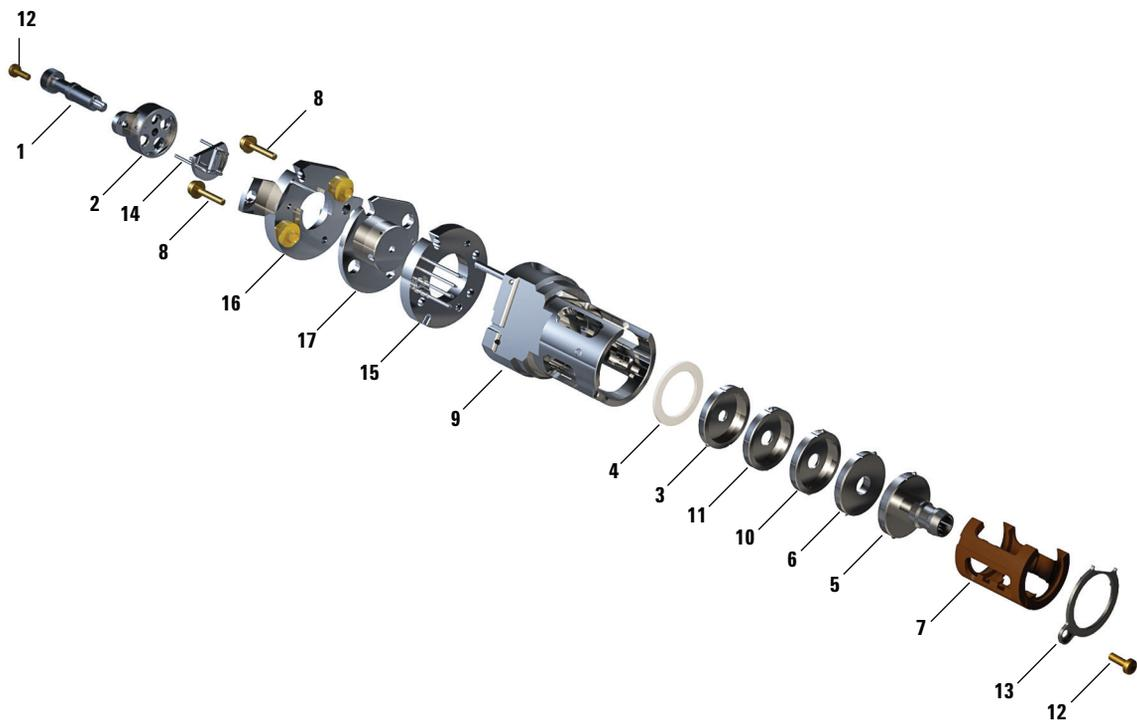
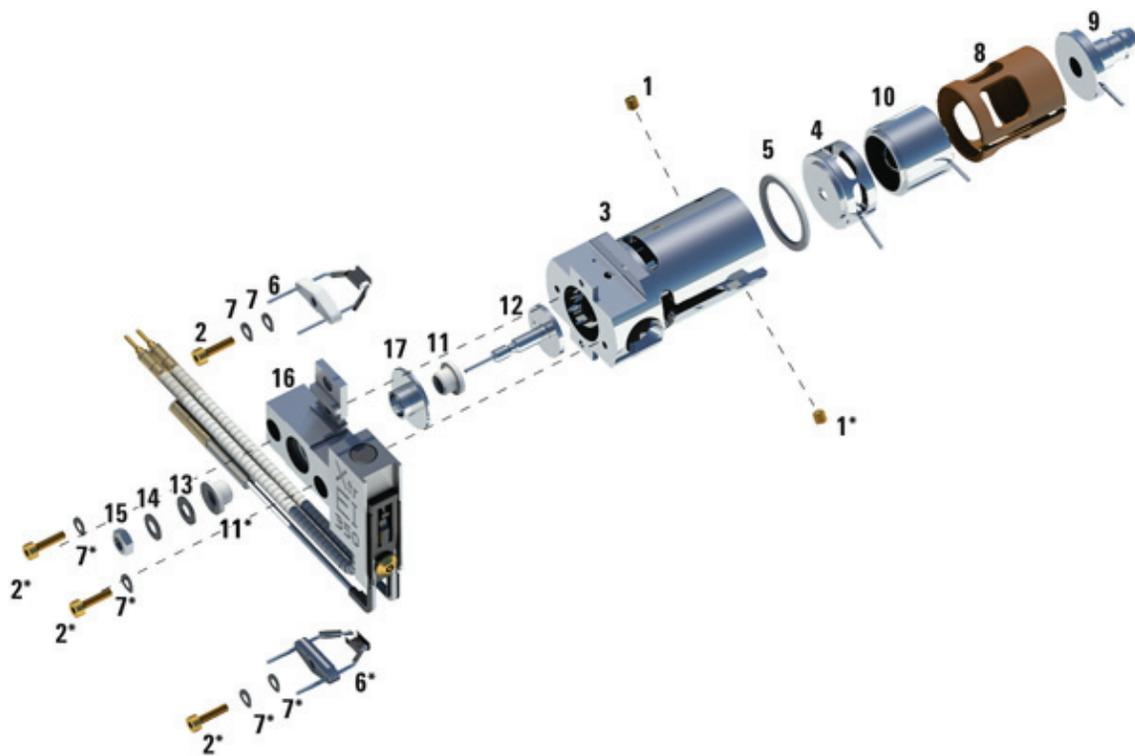

Figure 32. Exploded parts view of the EI HES
Figure 34. EI XTR or HydroInert source structure
The EI HES (**Figure 32** on page 151), EI HES 2.0 (**Figure 33** on page 153), and EI XTR (**Figure 34** on page 155) ion sources operate by electron impact ionization. The sample enters the ion source from the GC/MS interface. Electrons emitted by a filament enter the ionization chamber, guided by a magnetic field. The high-energy electrons interact with the sample molecules, ionizing and fragmenting them. The positive voltage on the repeller pushes the positive ions into the lens stack, where they pass through several electrostatic lenses. These lenses concentrate the ions into a tight beam, which is directed into the mass filter.
The HES (**Figure 32** on page 151) or HES 2.0 (**Figure 33** on page 153) body (item 9) is a cylinder. It holds the other parts of the source, including the lens stack (items 3, 11, 10, 6, and 5). The repeller (item 17), source mount (item 16), and filament block (item 2) form the ionization chamber. The ionization chamber is the space where the ions are formed. Slots in the source body help the vacuum system to pump away carrier gas and un-ionized sample molecules or fragments.
The EI XTR source body (**Figure 34** on page 155) is a cylinder. It holds the other parts of the source, including the lens stack. With the repeller, it forms the ionization chamber. The ionization chamber is the space where the ions are formed. Slots in the source body help the vacuum system pump away carrier gas and unionized sample molecules or fragments. The CI source is similar in design to the EI XTR source, but critical dimensions are different. Do not interchange parts.
**Table 7** Parts list for EI HES 2.0 (Figure 32)
**Table 7** Parts list for EI HES 2.0 (Figure 32) (continued)
**Table 9** Parts list for EI XTR and HydroInert source (Figure 34)
**Table 9** Parts list for EI XTR and HydroInert source (Figure 34) (continued)
For the HES, two filaments are located on a single assembly located on the center of the EI HES. (See item 14 in **Figure 33** on page 153.) For the EI XTR source, two filaments are located on opposite sides of the source body. (See item 6 in **Figure 34** on page 155.) The *active* filament carries an adjustable AC emission current. The emission current heats the filament causing it to emit electrons which ionize the sample molecules. In addition, *both* filaments have an adjustable DC bias voltage. The bias voltage determines the energy on the electrons, usually  $-70$  eV.
The extractor lens is a part of the EI source. (See **Figure 34** on page 155.) This lens replaces the drawout plate and cylinder on a CI source, performing a similar function, but is not interchangeable with the drawout plate and cylinder. A voltage is applied to the extractor lens to increase focusing in the EI source.